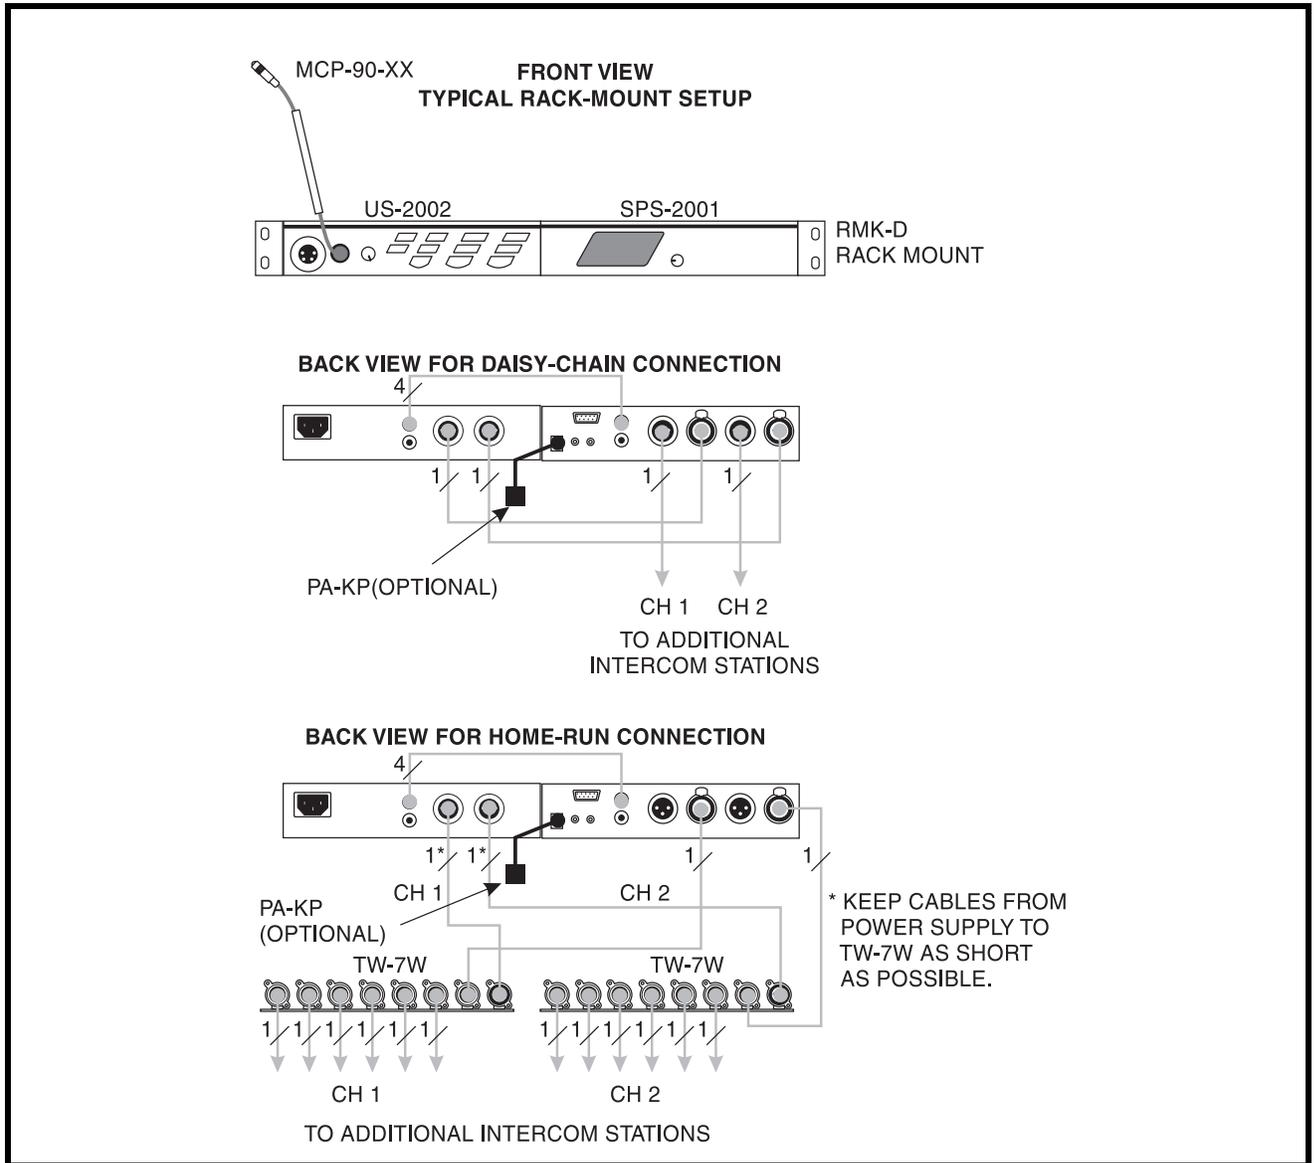
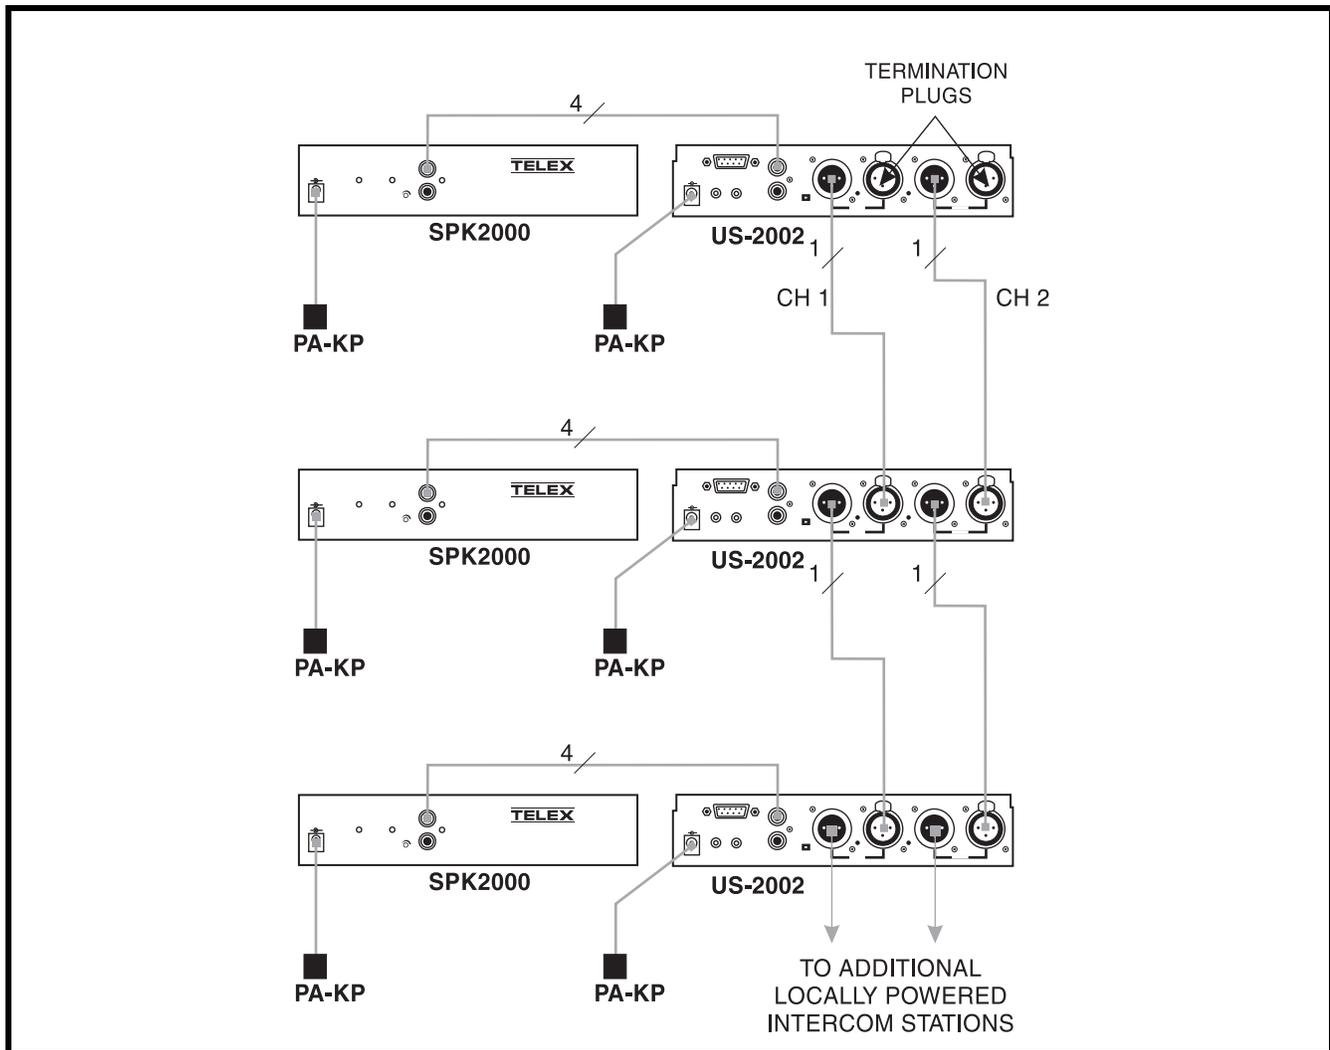

FIGURE 4. US-2002 Monaural Master Speaker Station Configuration with 1 Power Supply.
FIGURE 13. An example of all locally powered US-2002 intercom stations.
The US-2002 can be used in a variety of configurations as a speaker station or as a headset station. Additionally, it can be used as a central master station or as a remote station. When used as a central master station, the US-2002 is placed in the same location as the system power supplies, and if an SPS2001 power supply is used, the US-2002 can take advantage of the SPS2001 built-in speaker for speaker output. When used as a remote station, a separate speaker must be supplied. Figures 4 through 12, starting on page 15, illustrate several configurations for the US-2002 when used as a central or remote headset or speaker station.
Any US-2002 can be locally powered by connecting a PS-KP Local Power Supply. This is shown as an option in Figures 4 through 12. A special case is an intercom system where all stations are powered from local power supplies, with no central power supply. This is illustrated in Figure 13 on page 24.
The configuration, shown in Figure 4, is suitable for a smaller intercom system when you want to operate the US-2002 as a master speaker station, with one (1) speaker to monitor both intercom channels. In this configuration, the SPS-2001 Combine/Isolate switch is set to the Isolate position. With this setting, the two (2) intercom channels are completely separated. The amplified speaker in the SPS2001 is used as the speaker output for the US-2002, and the US-2002 dip switches are set to monaural operation so that both intercom channels are heard in the speaker. The PA-KP local power supply is optional. When a PA-KP is connected, the US-2002 automatically disconnects from system power (supplied by the SPS2001). When the US-2002 is not drawing power from the intercom system, more system power is available for additional belt packs, etc.
The configuration, shown in Figure 13, shows all the components are locally powered using PA-KP local power supplies. Note, the use of one (1) termination plug in each intercom channel. (One (1) termination plug is supplied with each US-2002.) Only one (1) termination plug should be installed per channel. Typically, they are installed at the first intercom station in the chain. If 2 terminations are installed in a channel, the sound quality and volume level is noticeably reduced. The advantage of locally powered stations is that they can be operated over a greater distance than is possible when using a system power supply.